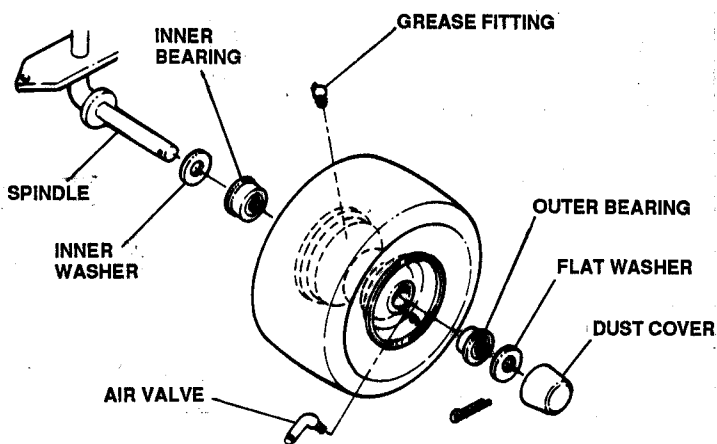

FIGURE 5.2
- C. Slide wheel off front spindle. Inspect bearings and wheel and tire assembly. Replace as required. See Figure 5.2.
- F. Reinstall wheel and bearing assembly as shown in Figure 5.2.